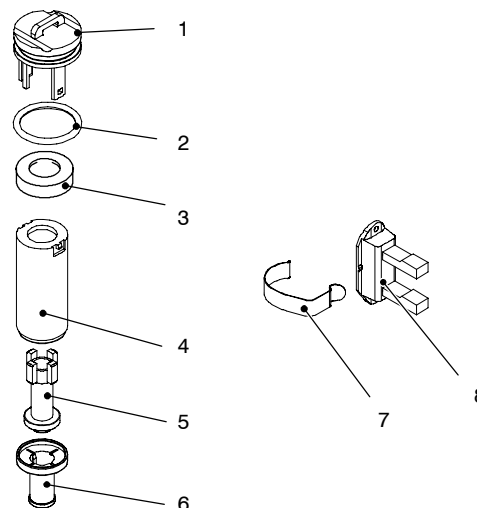

Fig. 68
### 14.2 Description and location of parts (Fig. 68)
- 3 To remove the filter from the flow switch group separate the filter 6 from the body 4 (Fig. 68) by levering it.
- 3 Insert the flow limiter 3 as shown in Fig. 68